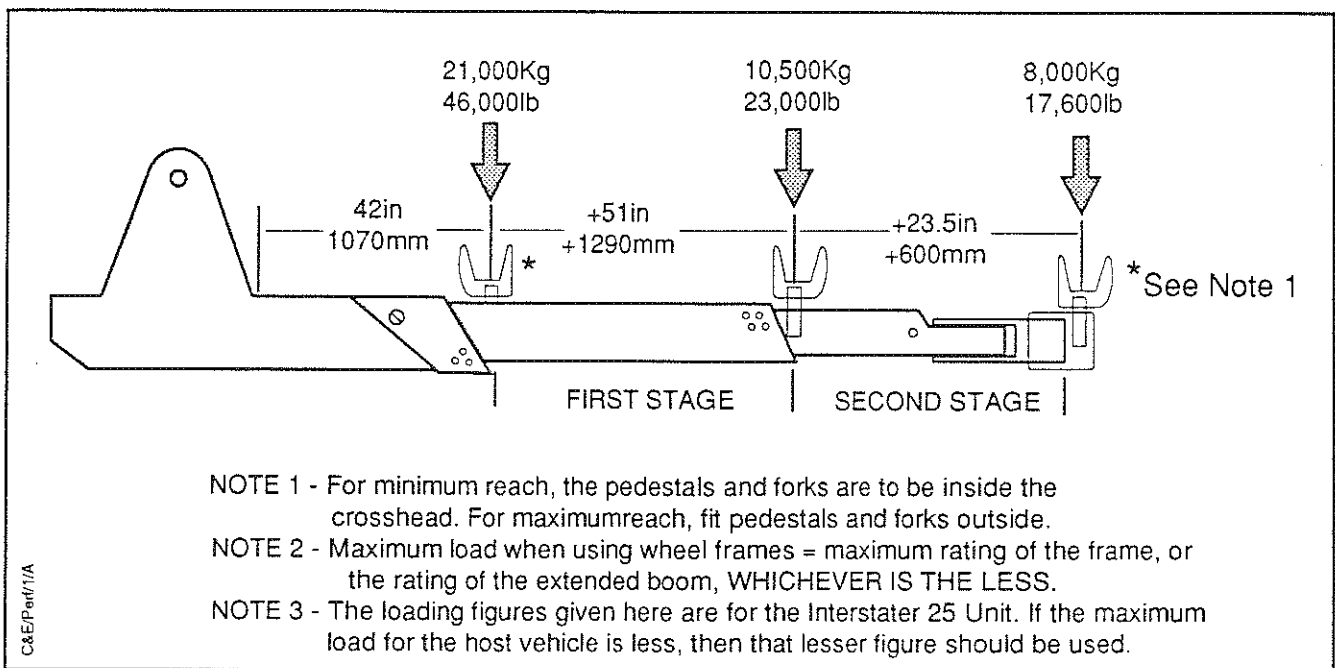

Figure 7- Performance Figures for the Type E Extending Boom
- 2.2.1      Without aiming to overload the Interstater or the vehicle it is fitted to, (See Figure 7 or 8 for loadings at full hydraulic extension), chose another vehicle which can be lifted by the unit, and prepare to lift as described in Part 3 of this book.